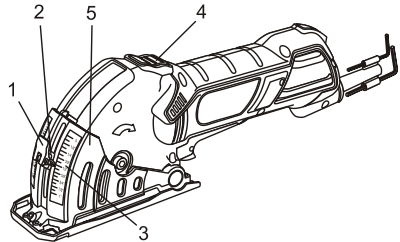

Fig. 3
1. Loosen the depth control lever (1) by pulling it outward (Fig. 3).
2. Slide the depth control (2) upward to the desired cutting depth (3).
2. Adjust the cutting depth as outlined on Page 15 Fig. 3.